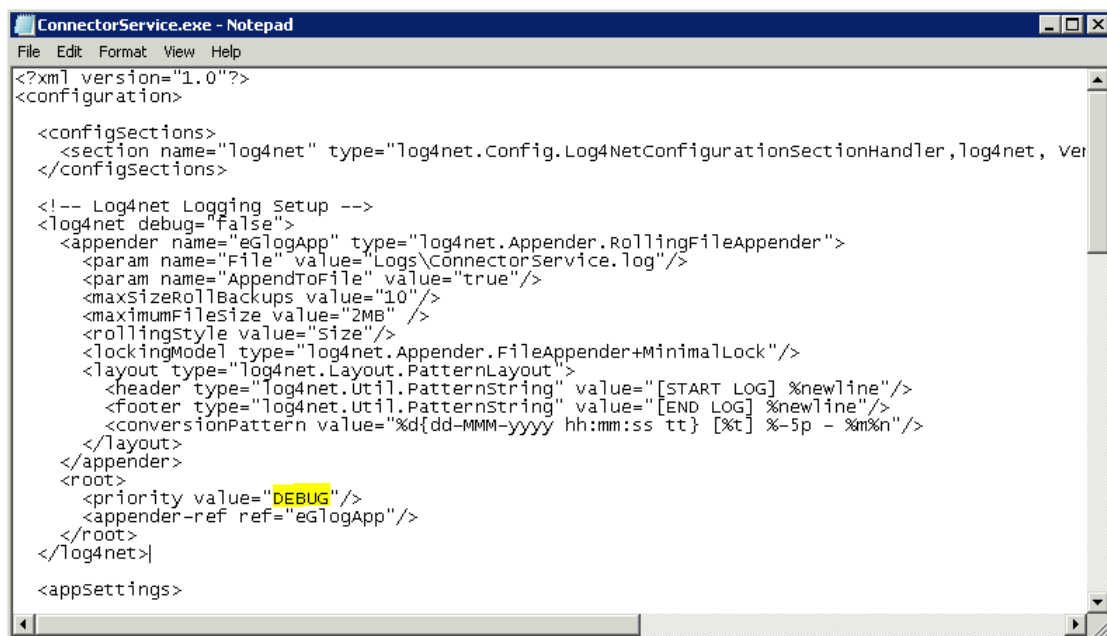

Figure 5.1: Enabling debugging for the eG SCOM Connector
- Then, set the <priority value to "debug" as indicated by Figure 5.1 below